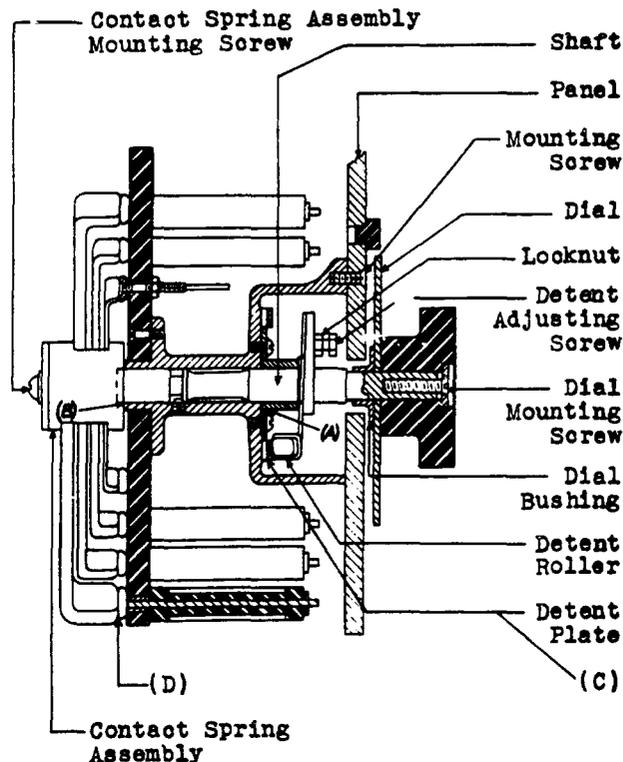
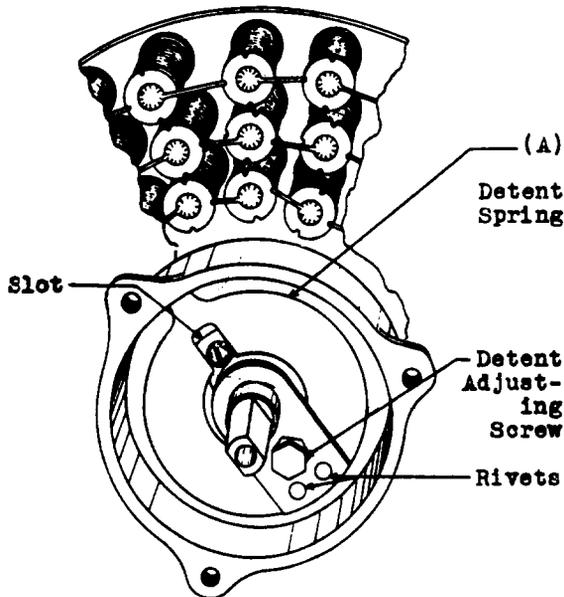

Fig. 2 - Section View
Fig. 3 - End Next to Panel
(b) The shaft Fig. 2 (A) and (B) and the detent plate Fig. 2 (C) shall be lubricated when necessary.
(a) Fig. 2 (D) - The contact surfaces of the contact springs shall be parallel with the contact surfaces of the studs and the collector ring. Gauge by eye.
Fig. 3 (A) - The detent spring pressure shall be as light as possible consistent with insuring the detent roller seating properly in the detent notches and causing a noticeable click when changing from one stud to another.
(a) Unsolder the IN and OUT leads. Remove the dial by removing the dial mounting screw and washer in the center of the knob (Fig. 2). Remove the dial bushing. Remove the potentiometer from the panel by removing the three mounting screws under the dial. By means of a small length of bare copper wire (No. 17 or 18 gauge) with one end bent at right angles for a distance of about 1/8 inch
apply a small amount of Petrolatum on the detent plate (Fig. 2) and rotate the switch to spread the lubricant. Repeat until a visible film of lubricant covers the entire path of the roller.
(b) To lubricate the shaft, remove the contact spring assembly by removing the contact spring assembly mounting screw and washer (Fig. 2). To lubricate the shaft at the end next to the panel, (Fig. 2 (A)), apply KS-6232 oil by means of the 401A oil gun inserted thru the slot in the detent spring, (Fig. 3), to the shaft bearing. To lubricate the shaft at the contact spring end apply KS-6232 oil by means of the 401A oil gun to the shaft bearing shown at Fig. 2 (B). The proper amount of lubricant to be applied is obtained by turning the knob of the 401A oil gun six positions.
(1) If adjustments are necessary to secure parallel alignment of the contact springs remove the contact spring assembly from the shaft by removing the contact spring assembly mounting screw and washer (Fig. 2). Then after the spring assembly has been removed from
(2) If the detent roller does not rest in the corresponding depression when the contact springs are centrally located on a contact stud this is probably due to the two rivets (Fig. 3) fastening the detent spring to its support becoming loose, thereby permitting a certain amount of rotation of the contact springs before the detent spring and roller begin to rotate. This may be checked by removing the dial and removing the potentiometer from the panel as covered in 3.01 (2) (a) and then exerting just enough rotating force to rotate the shaft slightly and observing the detent spring. If this condition is found to exist the switch should be returned to the Western Electric Company for repairs as it cannot be remedied properly without removing the shaft assembly.
(1) If the rivets fastening the detent spring to its support (Fig. 3) have become loose no attempt should be made to adjust them but the switch should be returned to the Western Electric Company for repairs.
(2) If the rivets are tight the detent spring pressure adjustment may be accomplished as follows: Remove the potentiometer from the panel as covered in 3.01 (2) (a). Loosen the lock nut on the detent adjusting screw in the detent plate support and tighten or loosen the detent adjusting screw (Fig. 2) as required using the 417A wrench. Tighten the lock nut.